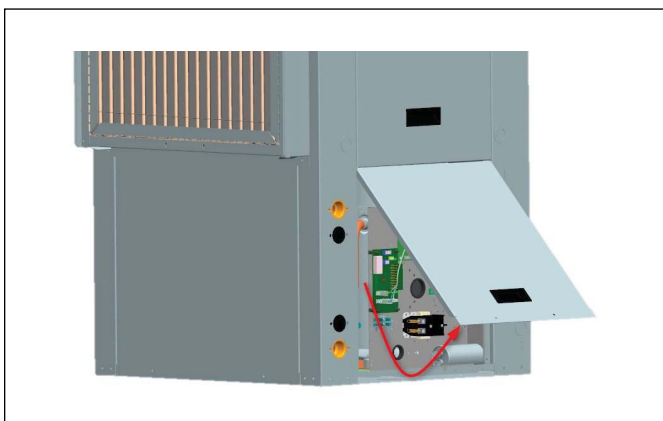

Figure 5
5. Rotate bottom panel 45 degrees (figure 5).